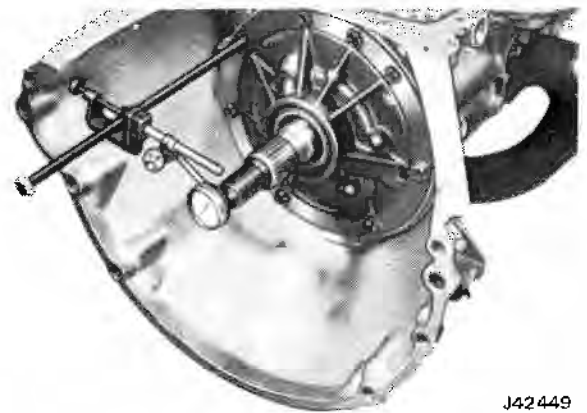

Fig. 7-19 Front Unit End Play
- (1) Remove one front pump attaching bolt and washer from either 5 or 10 o'clock position.
- (2) Install a  $\frac{3}{8}$  inch - 16 threaded slide hammer bolt, into bolt hole.
- (3) Mount a dial indicator on rod, then index indicator to register with end of turbine shaft, as shown in fig. 7-19.
- (4) Push turbine shaft rearward.
- (5) Push output shaft forward.
- (6) Set dial indicator to zero.
- (7) Pull turbine shaft forward.
- (8) Read resulting travel, or end play, which should be 0.003 to 0.024 inch.